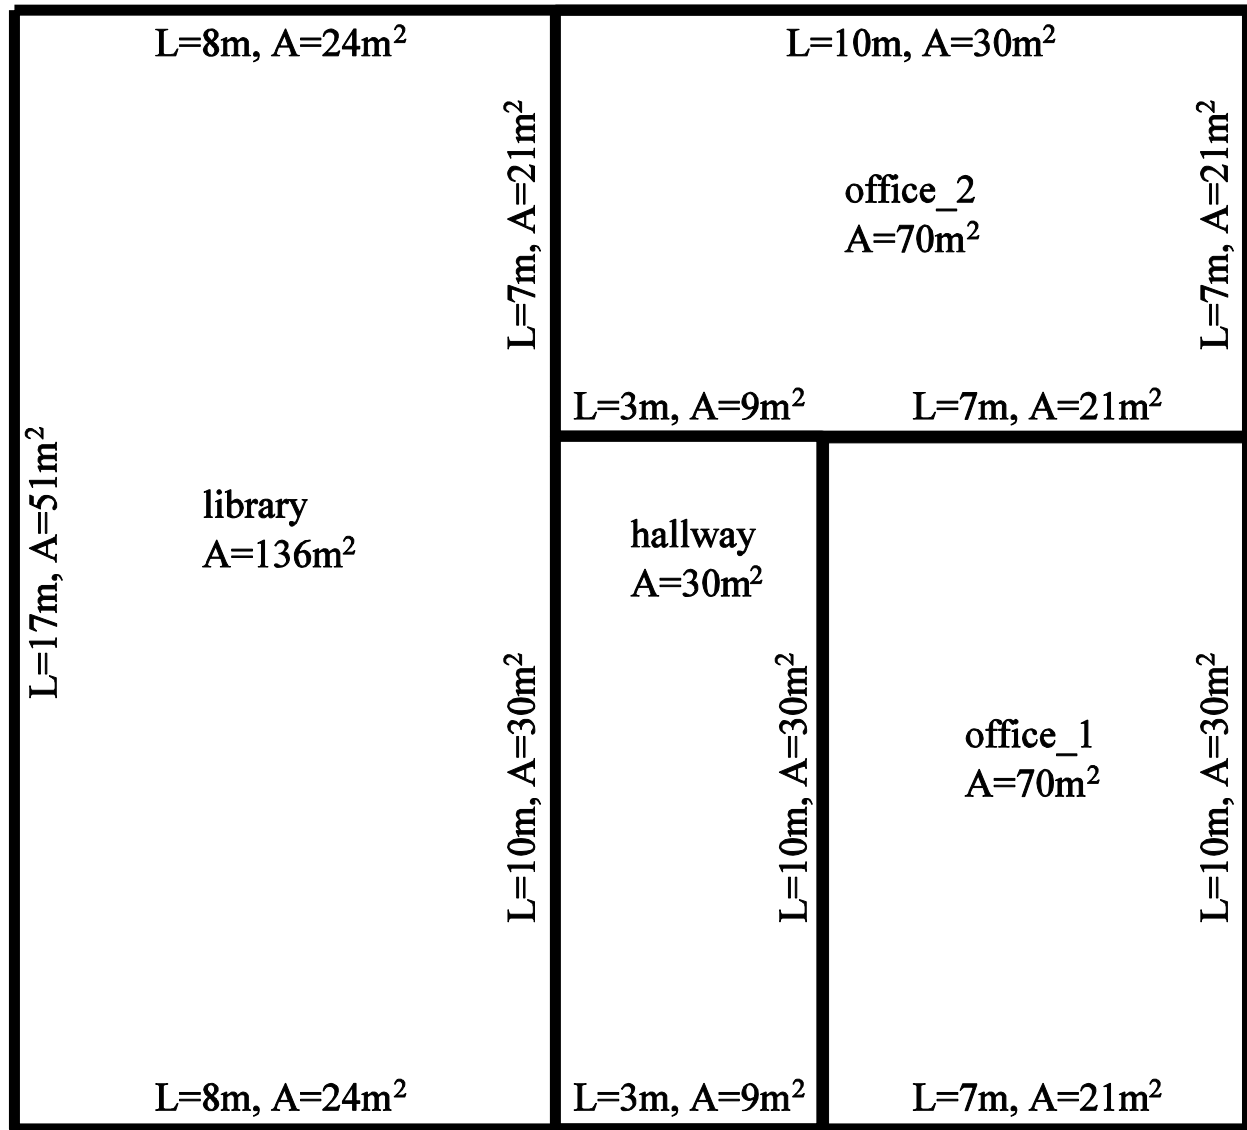

FIGURE 2 - A SIMPLE MODEL BUILDING
Using the box and line drawing tools, draw the zonal arrangement shown in Figure 2. Remember that the sketchpad is not to scale, so the exact sizes are not important – only the relative locations of zones is important. Be careful to make all walls long enough that several icons will fit.
height (which defaults to 3 meters). Set up four zones using the information in Figure 2. Save your work to a descriptively named file using **File→Save Project As...** (e.g. ae552-zones.prj).
- f) The flowpath that we are using is essentially leakage per square meter, so we need to include this information in each flowpath. This is done using the multiplier, which is on the **Flow Path** tab of the Airflow Path Properties dialog (double click on a flow path to bring up the dialog). For example, the leftmost wall has an area of 51 square meters, so the multiplier should be set to 51. Set the multipliers for the wall leakage flow paths using the information in Figure 2.
- a) Compute the required supply and return airflows (in SCFM) using Figure 2.